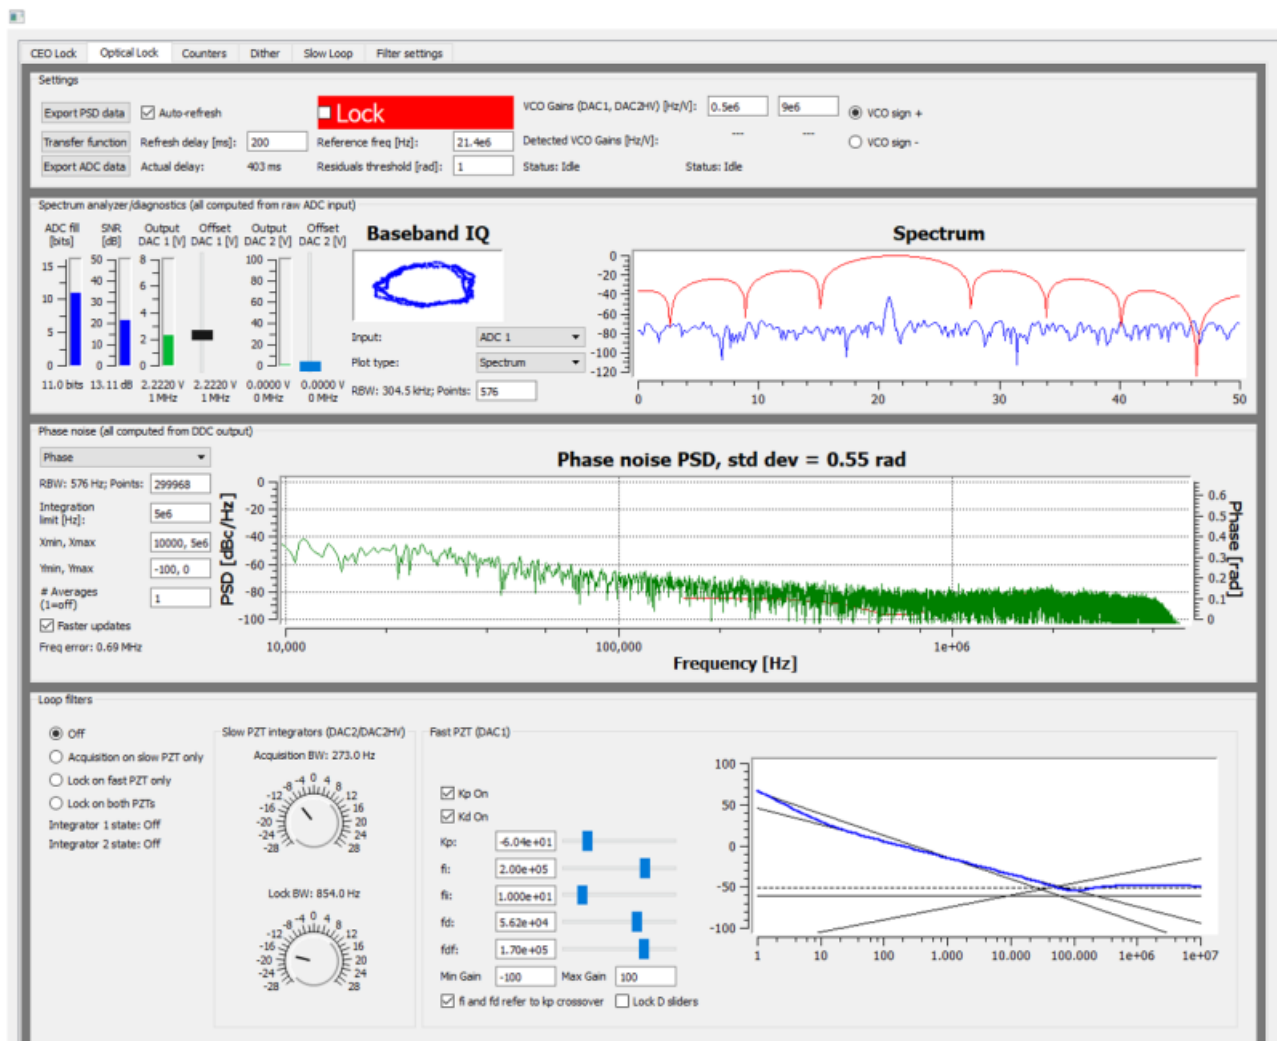

Fig. 15: Centering  $f_{\text{opt}}$  on reference frequency (Baseband IQ optimization)
1. Navigate to the "Optical Lock" window. Center the beat note near the reference frequency: adjust the "Offset DAC 1" slider (or your reference laser frequency) until you see a circular Baseband IQ diagram (figure 15).